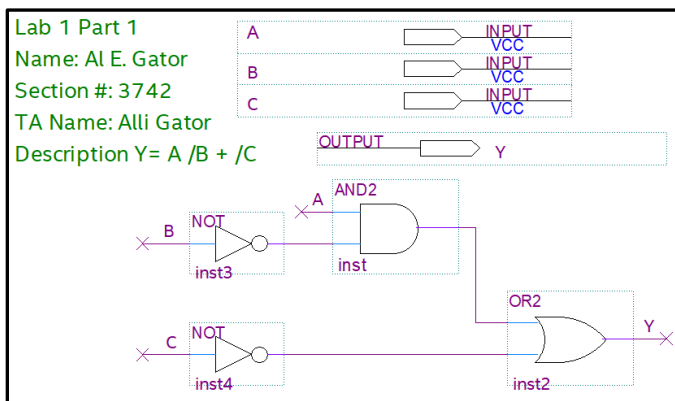

Figure 4: Bdf with inputs and outputs
- In the same manner that you placed a gate onto the bdf, add three input pins from the “Symbol” libraries. Input pins can be found under “primitives | pin | inputs” (or just type **input** just as you typed **not** previously in the “Name:” box). I suggest placing these inputs together, above your logic diagram and just to the right of your name as shown in Figure 4.
- In the same manner and in the same library that you found the input pins, add an output pin from the “Symbol” library. I put this output pin under and to the right of the input pins. Change the pin name to ‘Y’ on the output port, as shown in Figure 4.
- The “A” label will connect the input labeled “A” to this wire. Similar connections are made by the labels on the other inputs and output. The bdf should look similar to Figure 4.